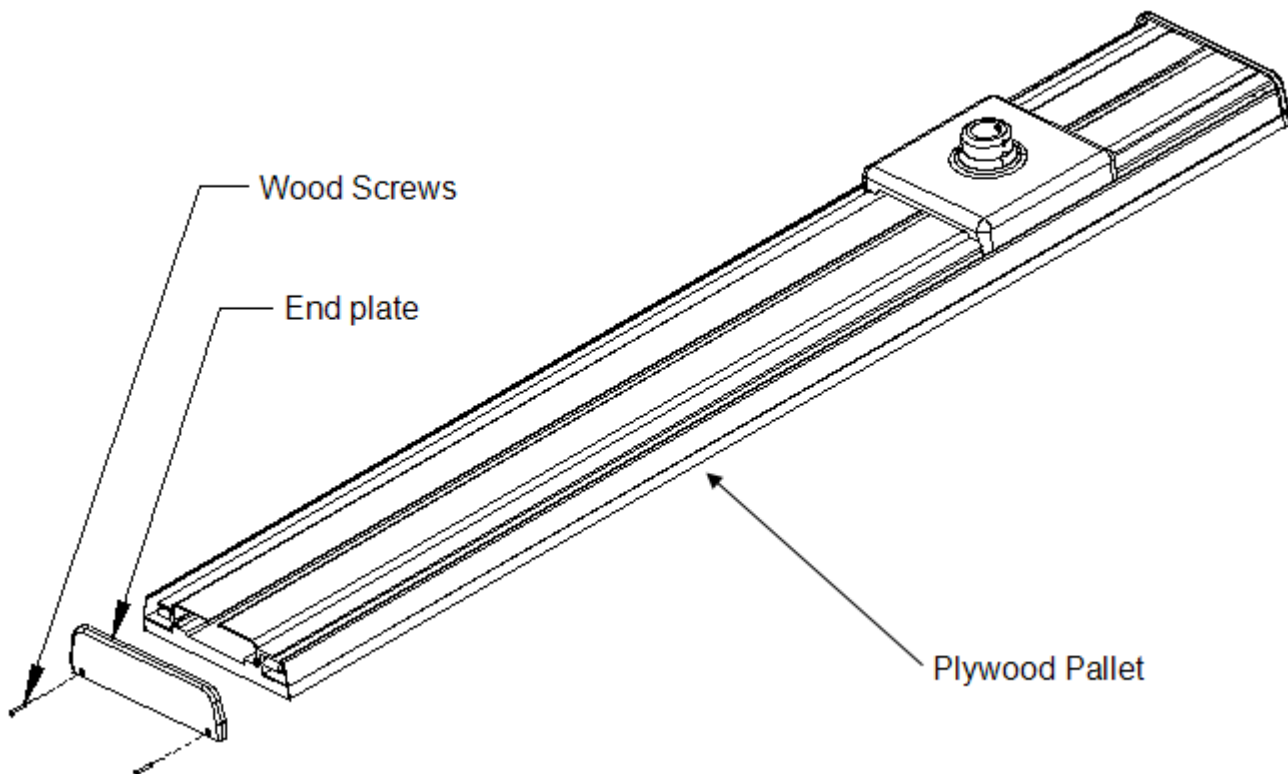

Figure 26. End Plate Removal
- Take the end plate/plates P/N1001511 off the side of the track by unfastening the two (2) #6 wood screws. See Figure 26. End Plate Removal.